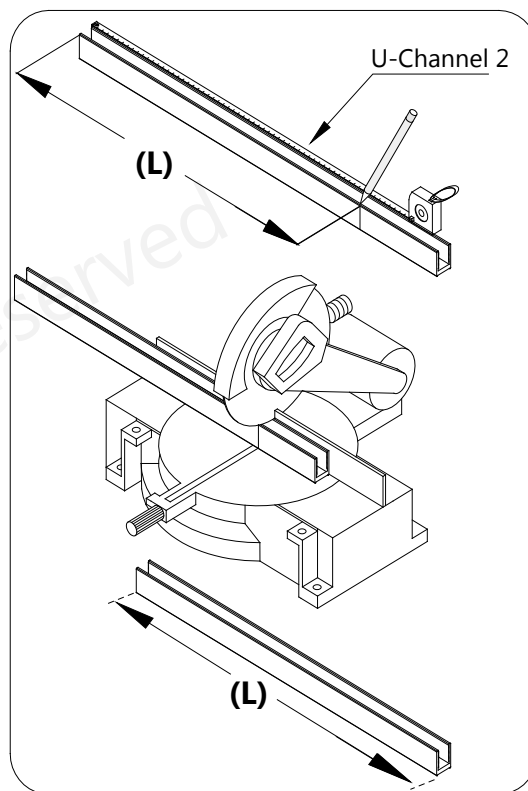

Fig 11
11. Cut the **Bottom U-channel 2 (#29)** to **24"** (see note** below). (Fig 11)